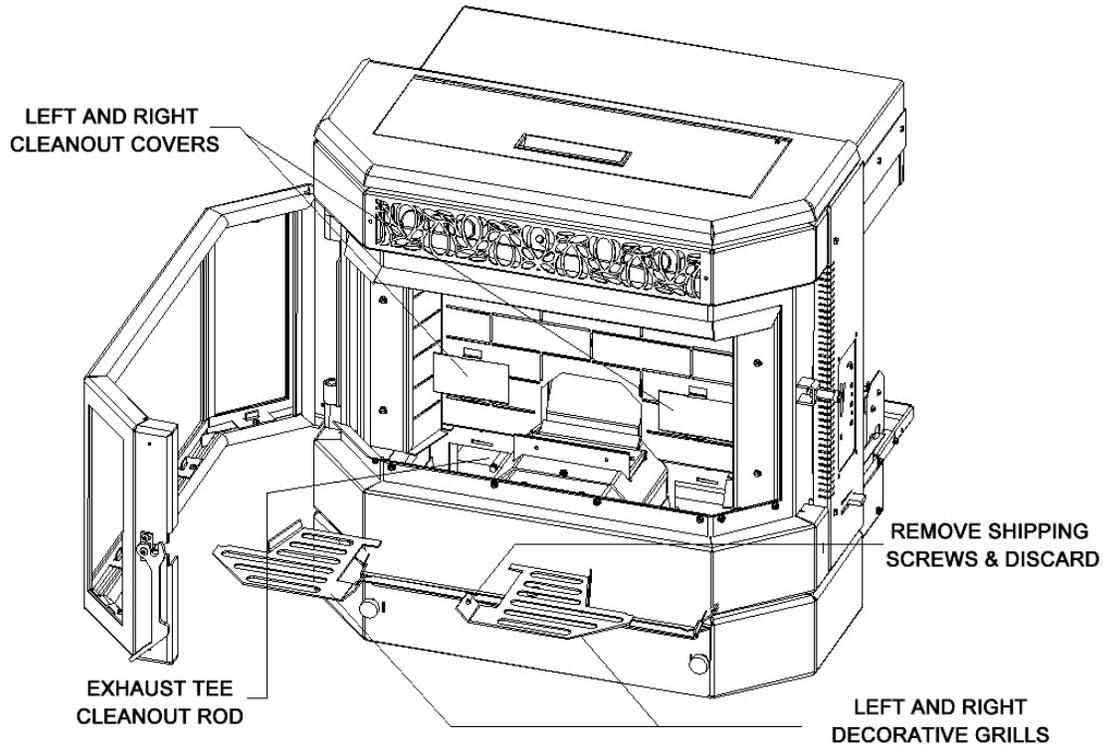
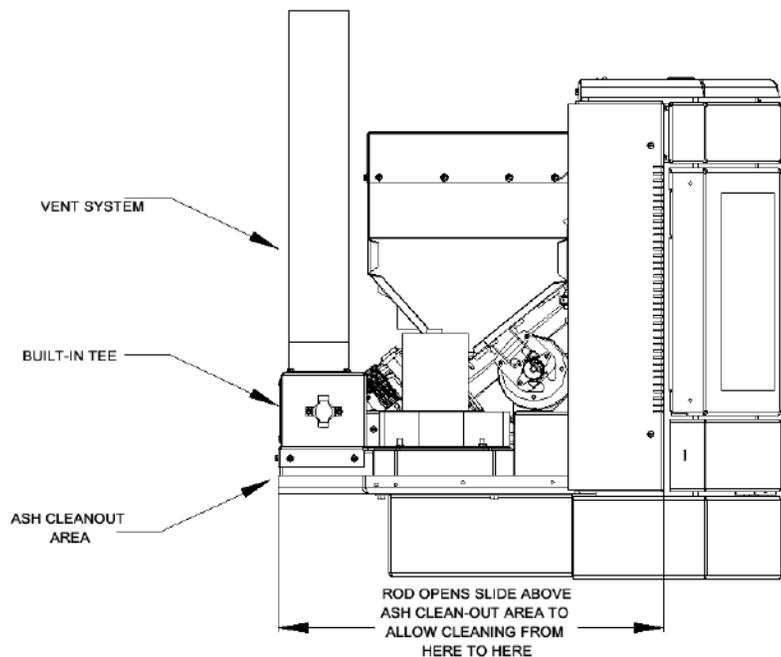

Figure 24
Figure 25
Figure 24 also shows the location of the Exhaust Tee clean-out rod. The insert has a built in cleanout to be able to vacuum the buildup that accumulates in the vent system from the front of the unit without having to pull the unit from the fireplace. Figure 25 on the following page shows the area that can be reached with a vacuum cleaner without having to pull the insert from the fireplace. The Exhaust Tee Cleanout Rod must be pulled forward to open the Cleanout Tee. Cleaning this area on a regular basis will prevent the vent system from becoming plugged with fly-ash. The recommended size of the hose to use for vacuuming this area is 1.25" outside diameter. The hose should be inserted into the left Cleanout Port and vacuum all the way back to below the built in Tee as shown in Figure 25. ***Push the Rod back in to close the bottom of the Cleanout Tee.***
5. **Exhaust System.** See Figure 24, 25 and 26 for information on cleaning fly ash that collects in the vent system. Periodic cleaning of the exhaust system is required. Under certain conditions chimneys may plug up rapidly. Dirty poor quality Fuel, and poor installations require more frequent chimney cleanings. The products of combustion will also contain small particles of fly ash. The fly ash will collect in the exhaust vent and restrict the flow of the flue gases. Judge the frequency of cleaning by checking the amount of ash that accumulates in the built in Cleanout Tee in the exhaust system. Ask the dealer for suggested frequency of cleaning, equipment needed and procedures for cleaning. Check the Vent Cap at least once every two months during the heating season to see if it has become plugged. **See Page 24 “Preventing Chimney Fires”.**
1. **Spring Shutdown.** After the last burn in the spring let the unit cool down. Remove all fuel from the hopper and the auger. Thoroughly clean the burn pot, burn pot box, ash pan and ash traps behind the ash pan. (To locate the ash traps see figure 24)